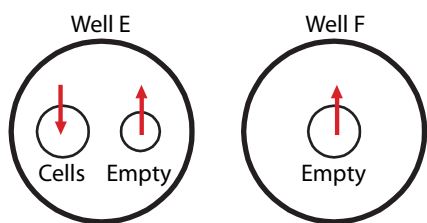

Figure 3 Cell Loading Step
2. Prepare a cell suspension of $0.5-5 \times 10^6$ cells/ml. Completely aspirate the cell loading well (E) and outlet well (F), **making sure to remove the liquid from the 2mm diameter inner holes at the bottom of the wells** (see Figure 3).